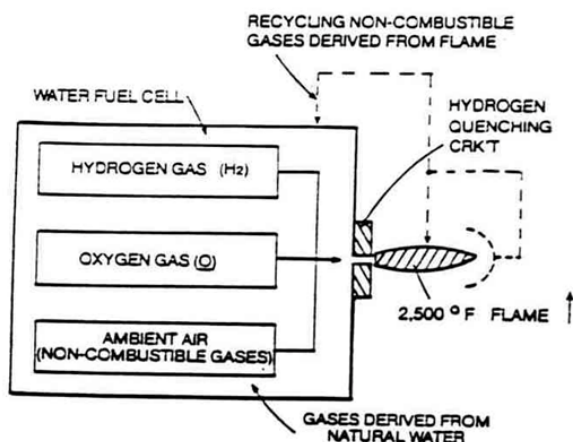

FIG. 24: RENDERING HYDROGEN SAFER THAN NATURAL GAS
The gas mixing ratio of said Fuel Cell automatically adjusts the burn rate of **hydrogen gas from 325 cm/sec to 42 cm/sec**, co-equating the burn-rate of natural gas, as illustrated in Figure 24 as to Figure Graph 23.
To reduce the burn-rate of the hydrogen gas still further to lower flame temperature, simply **capture** (1) and **recycle** (2) the **non-combustible gases** (3) being expelled from said sustained **hydrogen flame** (9), as illustrated in Figure 24 as to **Figure 24SC**.